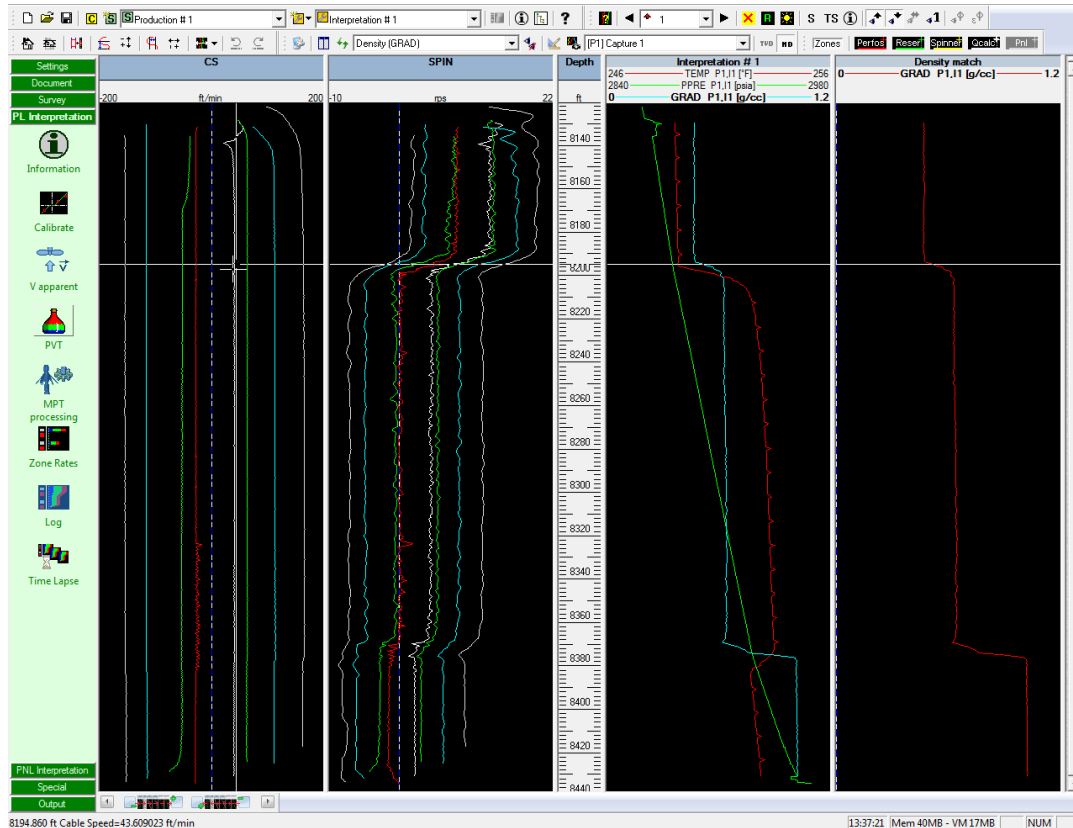

Fig. B01.26 • Layout for interpretation
- Since we have now selected the reference channels for Temperature, Pressure, and Density we will hide the tracks for the raw measurements. Hide also the Gamma Ray, and setup your screen as on Fig. B01.26. Use 'Tile' to optimize the use of the full window width.
- Select the 'Document' control panel, click on 'Well Details', and activate the 'Internal Diameter' tab. Make sure the input mode is on 'Int. Diam.' (as opposed to Caliper) and enter: **8000**, press <Tab> and input **6.184** (Fig. B01.26).